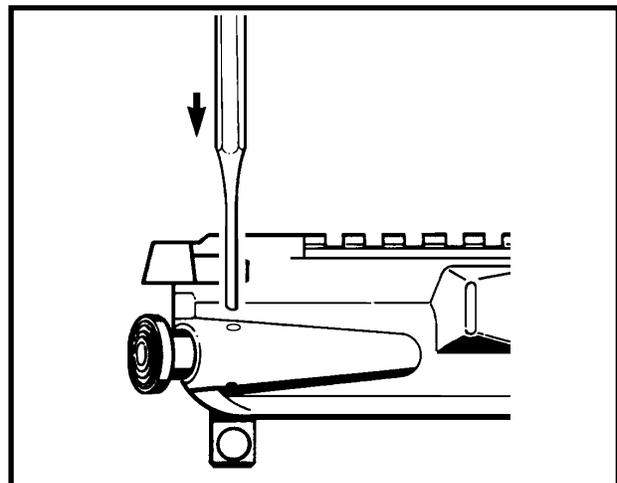

Figure 3-2-24 Removing the Forward Assist Assembly
- a. Drive out the forward assist assembly pin using a suitable punch. See Figure 3-2-24;